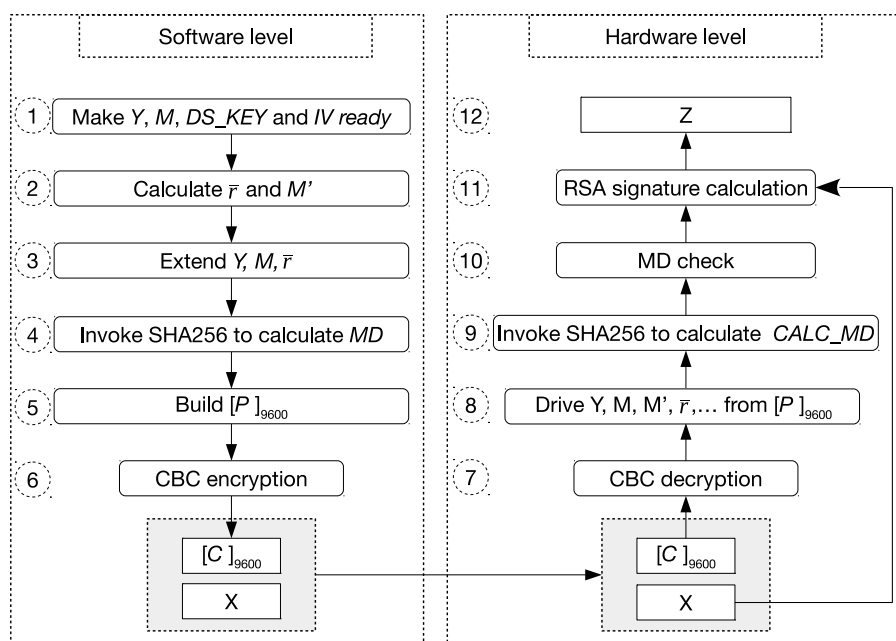

Figure 22-1. Software Preparations and Hardware Working Process
If users want to use the DS module for digital signature, the software and hardware must work closely to implement this successfully, and the software needs to do a series of preparations, as shown in Figure 22-1. The left side lists preparations required by the software before the hardware starts RSA signature calculation, while the right side lists the hardware workflow during the entire calculation procedure.
1. The software preparation (left side in the Figure 22-1) is a one-time operation before any signature is calculated, while the hardware calculation (right side in the Figure 22-1) repeats for every signature calculation.
You need to follow the steps shown in the left part of Figure 22-1 to calculate C . Detailed instructions are as follows:
1. Decryption: Step 7 and 8 in Figure 22-1
The decryption process is the inverse of Step 6 in figure 22-1. The DS module will call AES accelerator to decrypt C in CBC block mode and get the resulted plaintext. The decryption process can be represented by $P = \text{AES-CBC-DEC}(C, DS_KEY, IV)$, where IV (i.e., $[IV]_{128}$) is defined by you. $[DS_KEY]_{256}$ is provided by HMAC module, derived from $HMAC_KEY$ stored in eFuse. $[DS_KEY]_{256}$, as well as $[HMAC_KEY]_{256}$ are not readable by users.
2. Check: Step 9 and 10 in Figure 22-1
The DS module will perform two checks: MD check and padding check. Padding check is not shown in Figure 22-1, as it happens at the same time with MD check.
3. Calculation: Step 11 and 12 in Figure 22-1